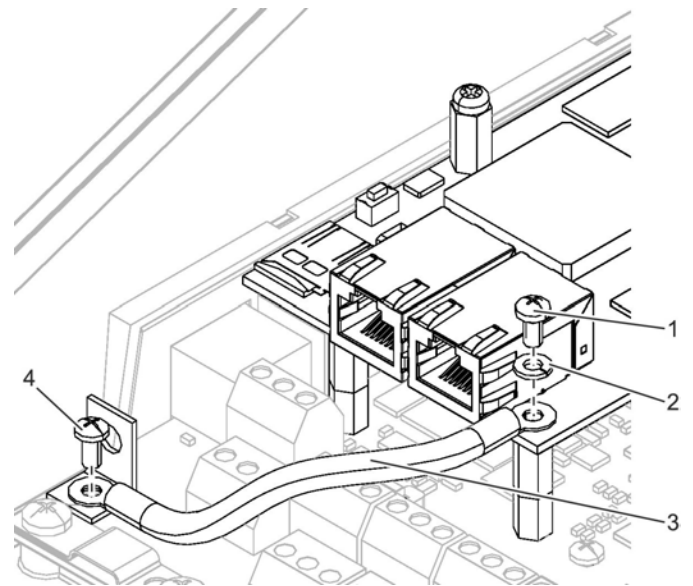

Fig. 52: Fixing the ground strap
4. ▶ Fix the ground strap (Fig. 52/3) with the fixing screw (Fig. 52/1) and the washer (Fig. 52/2) to EM-IP.
5. ▶ Fix the other end of the ground strap (Fig. 52/3) with a fixing screw (Fig. 52/4) to the earth connection on the main PCB.